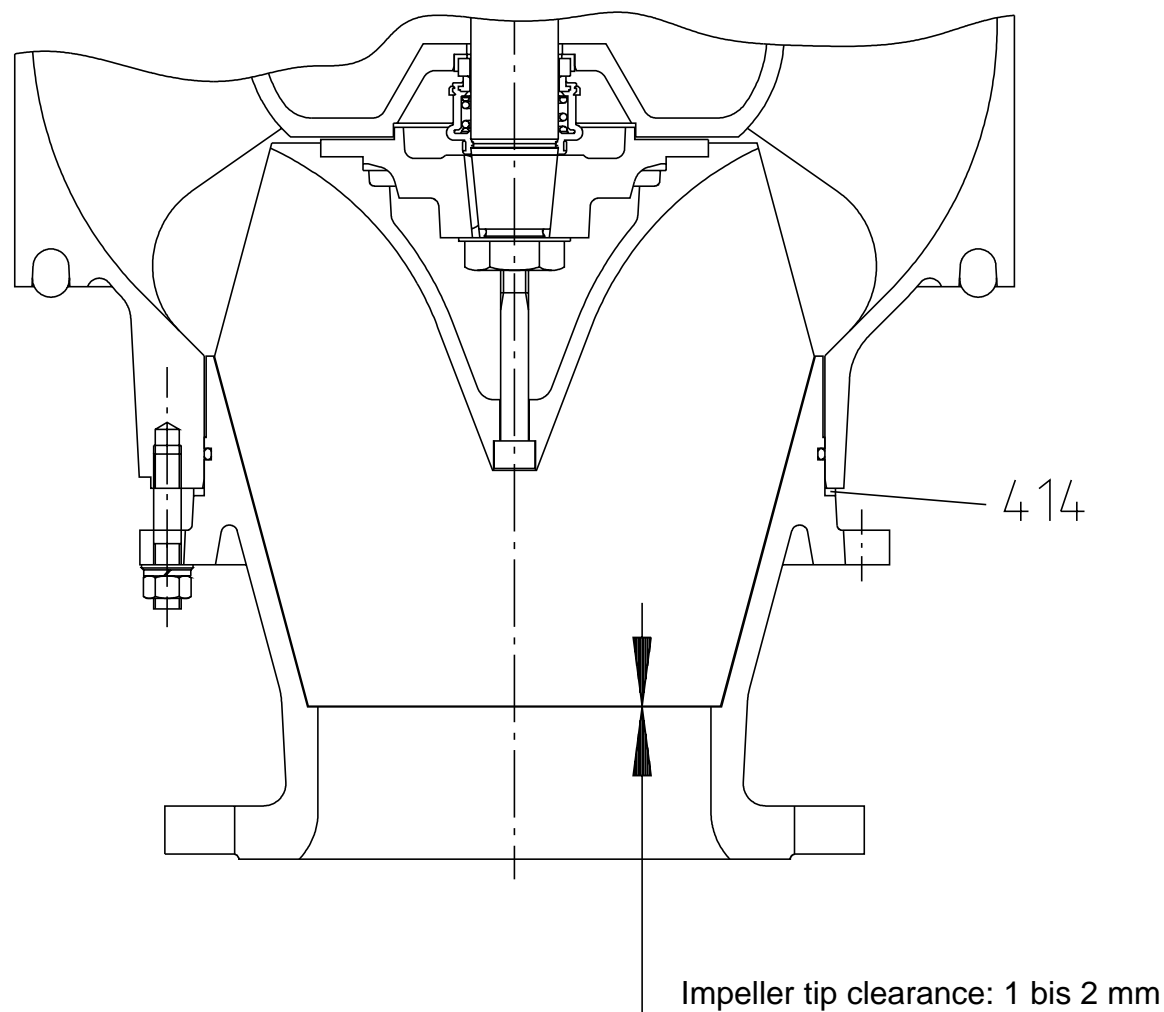

Fig. 28
If the tip of the impeller touches the wear ring (408) or the lip in the liner (or suction cover) or if there is less than 1 mm clearance between the tip and the lip (the spiral edge of the impeller is firmly seated against the conical taper inside the liner or suction cover), then the impeller tip must be ground off, parallel to the suction flange, until 1 to 2 mm clearance is obtained. (Fig. 28)